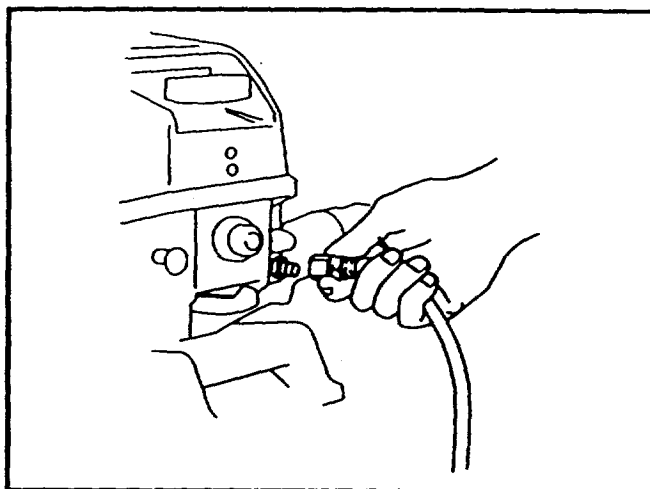

FIGURE 40
- Disconnect fuel line from bushing on motor (Figure 40).